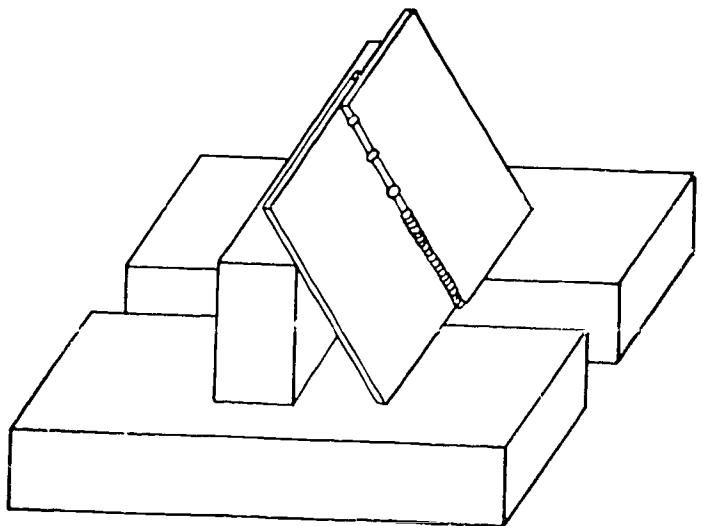

Figure 2-7. Vertical lap joint.
**Vertical Position.** When you are welding with the parts inclined at an angle greater than 45° and the seam is running vertically, as illustrated in figures 2-7 and 2-8, you produce a vertical weld. During vertical welding, gravity causes the molten metal to run down and produce a highly crowned bead. To control the flow of the molten metal, hold the flame below the welding rod and point it upward at an angle of 45° to the plate. Removing the flame momentarily when the molten metal tends to sag will aid in producing a weld of proper contour. The solidified weld metal just below the molten pool acts as a ledge that provides support.